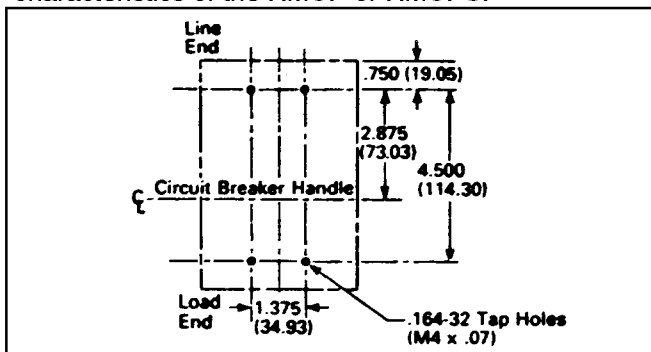

Fig. 2-1. MCP, HMCP and HMCPs Mounting Bolt Drilling Plans
- For individual mounting panels, make sure that mounting panel is predrilled using drilling plan (Fig. 2-1)